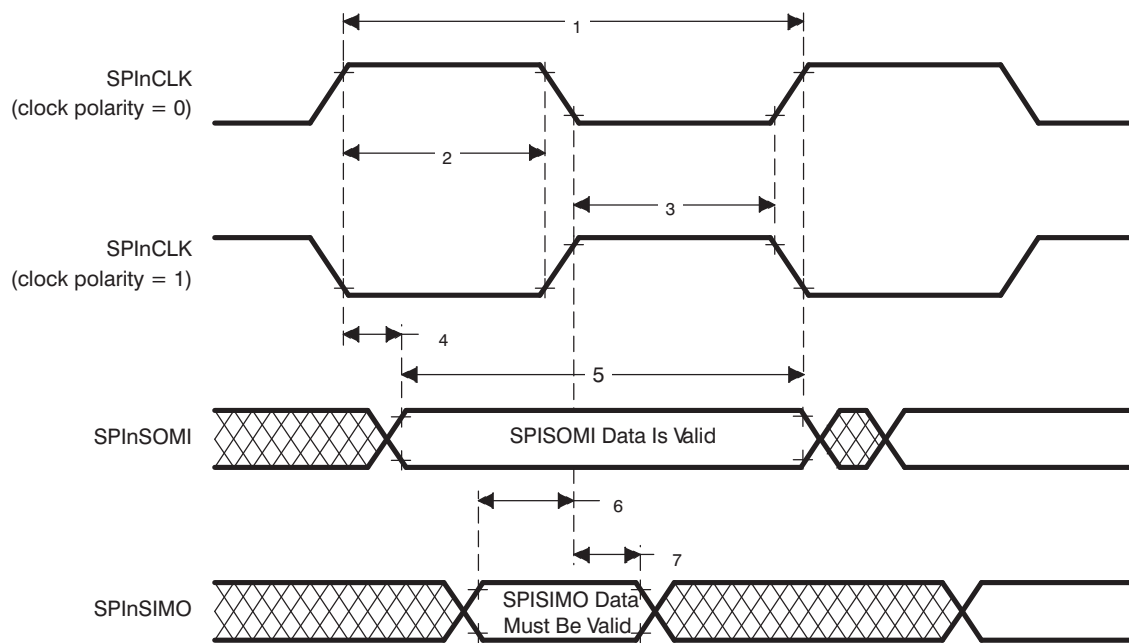

Figure 6-11. SPIn Slave Mode External Timing (CLOCK PHASE = 0)
(CLOCK PHASE = 0, SPInCLK = input, SPInSIMO = input, and SPInSOMI = output)^{(2) (3) (4) (5)} (see Figure 6-11)